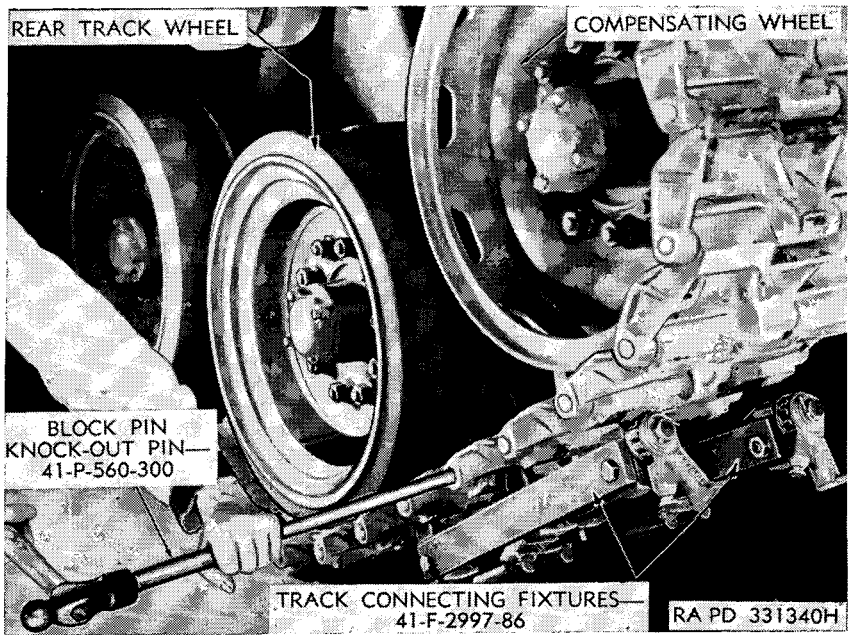
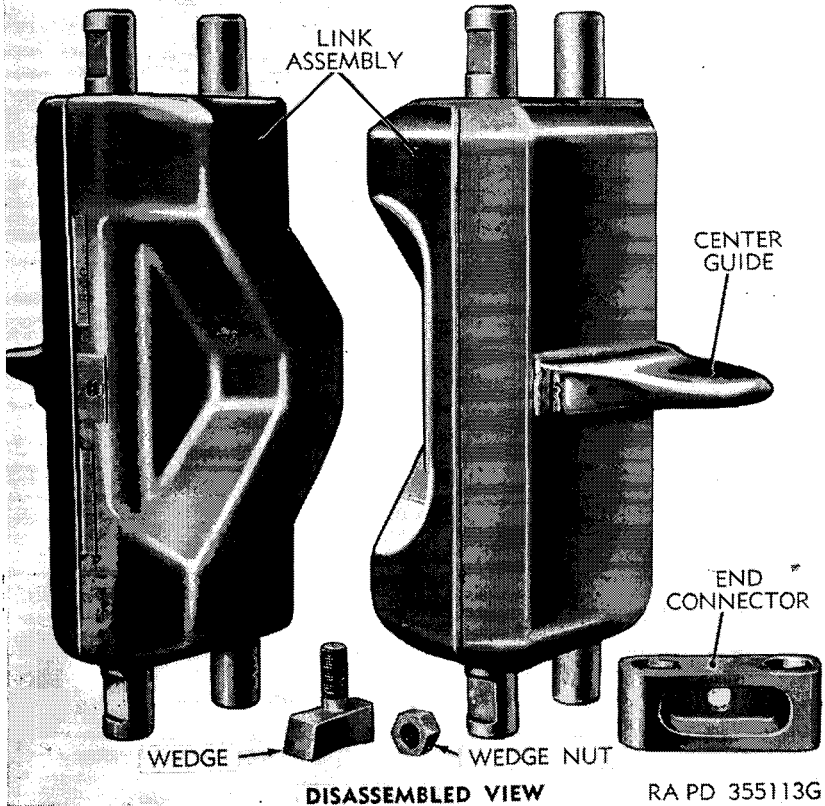
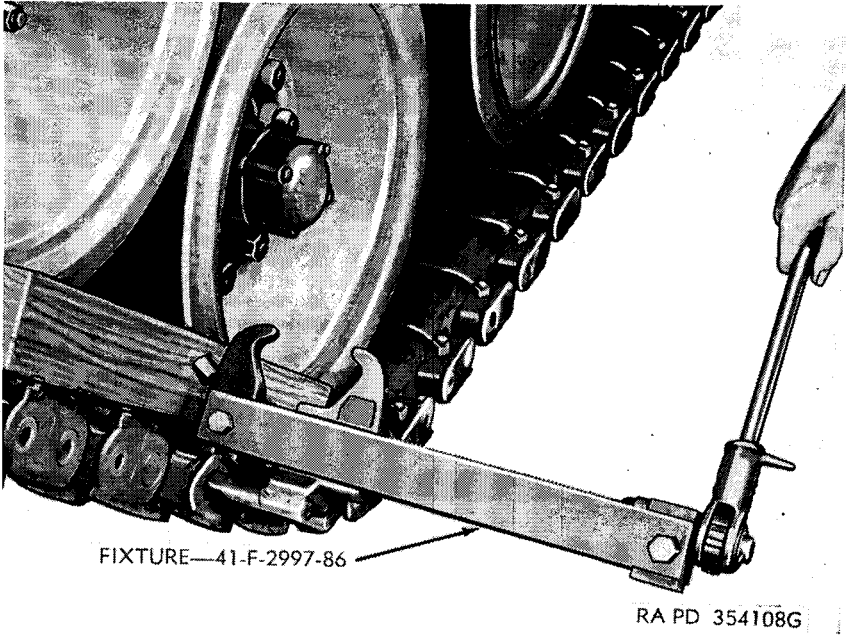

Figure 134. Removing track pin—steel track.
Figure 136. Rubber track shoes.
Figure 137. Removing track link end—rubber track.
- (2) *Rubber track.* To remove rubber track (T85E1) (fig. 136), loosen clamp bolt at rear of compensating wheel arm (fig. 134) and slide lock plate up from adjusting nut. Loosen adjusting nut until track is loose. Remove wedge nuts and wedges on both sides of tracks. Drive outer connector off first (fig. 137), then drive inner connector off.
- (3) *Move vehicle.* Start engines, put transfer unit and transmission shift levers in "DRIVE" position, and run engines just fast enough to turn track drive sprocket slowly. Run upper